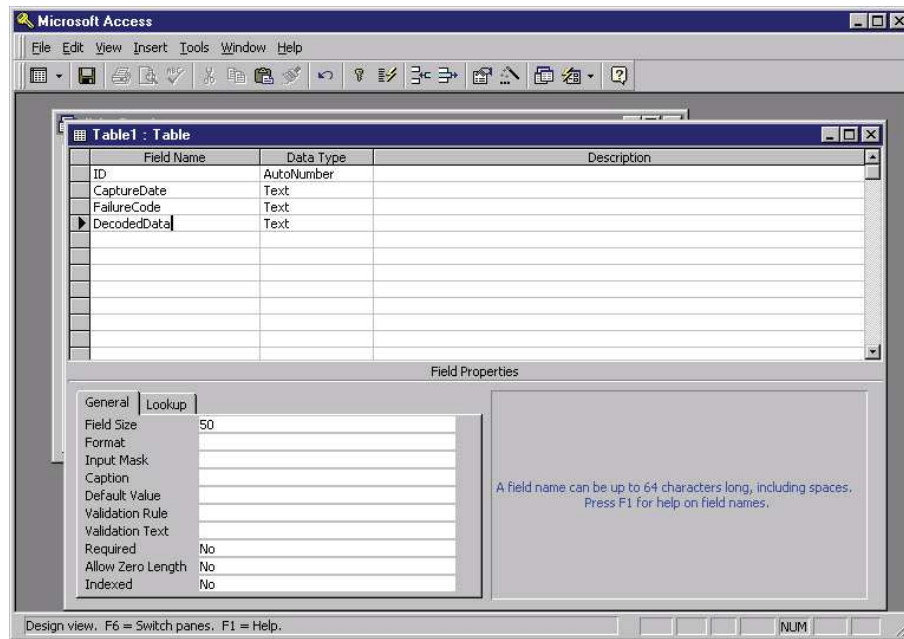

Figure 259 Adding Fields Using Design View in Microsoft Access
5. Name the next three fields **CaptureDate**, **FailureCode**, and **DecodedData**, and define them as **Text** data types. See Figure 259.